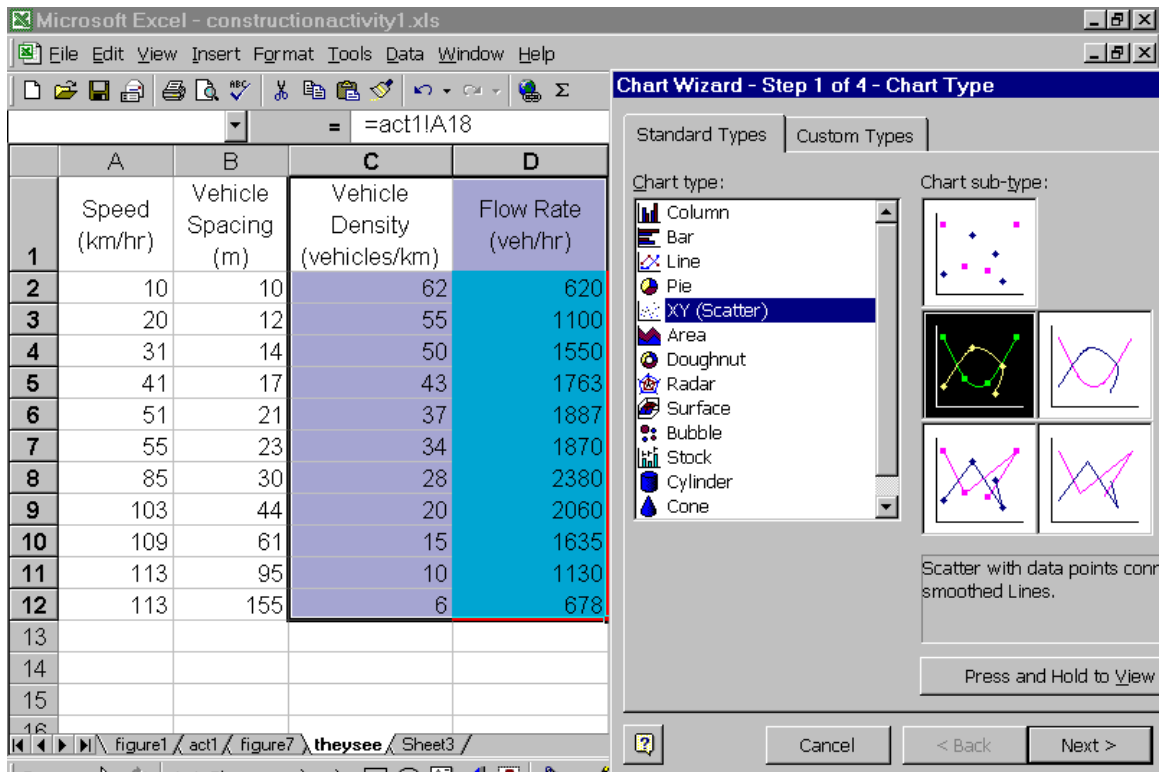

Figure 6: Example of Plotting the Same Graph in Excel
- Continue with the chart wizard (see Figure 6)